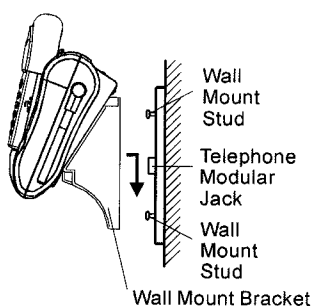

Figure 5
3. Mount the base unit to the modular wall jack by hooking the studs of the wall plate into the keyhole slots of the wall mount bracket. Pull the base unit down until it is securely seated as shown in figure 5.